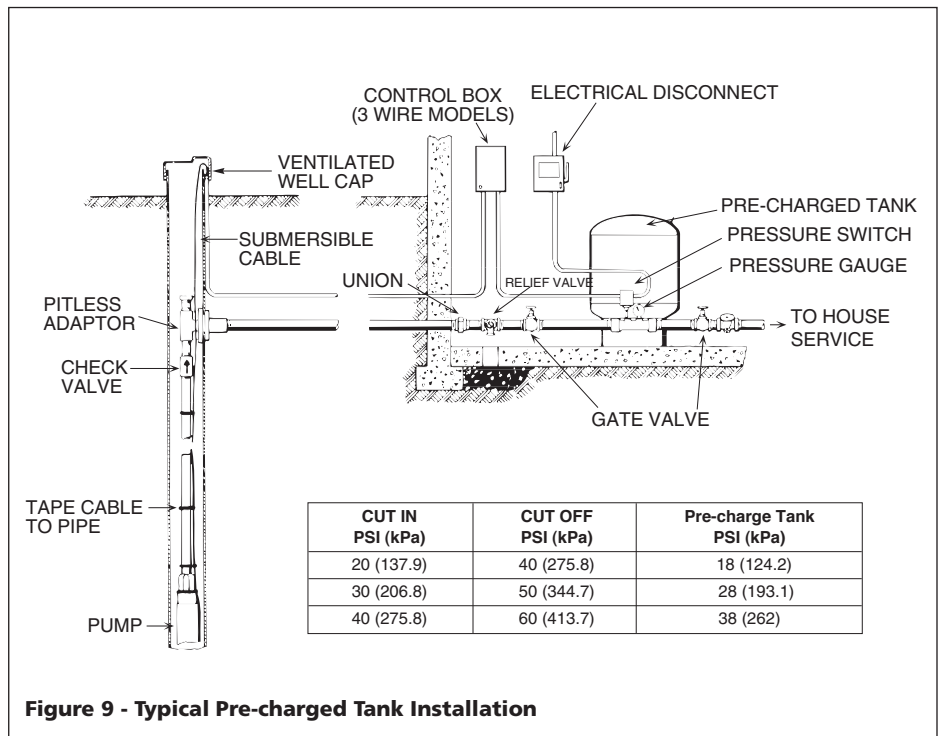

Figure 9 - Typical Pre-charged Tank Installation
9. Remove gate valve (see Figures 9 and 10).
See Figure 9 for illustration of piping connections to pre-charged pressure tanks.